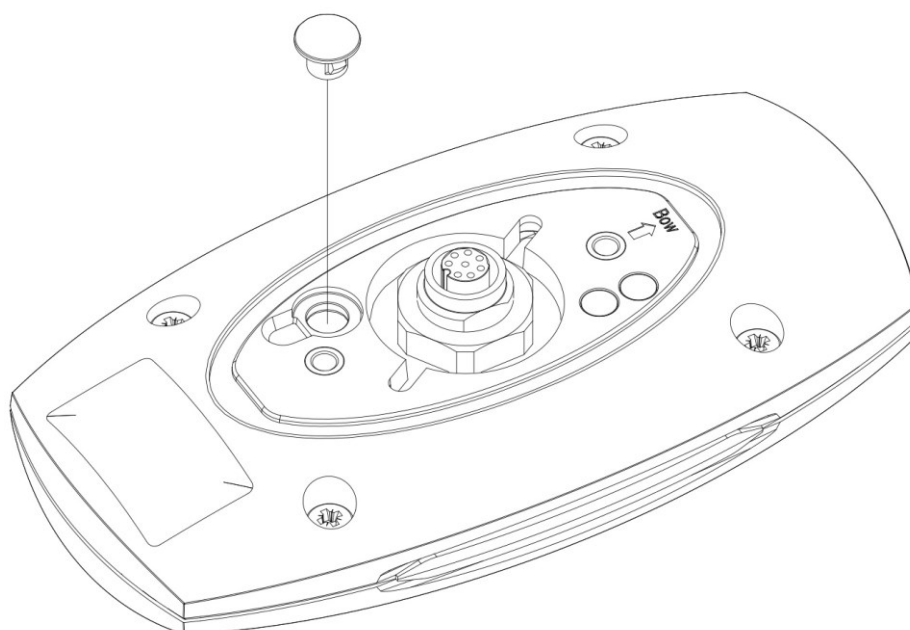

FIGURE 8: POLE MOUNT INSTALLATION STEP 2 (REMOVE CAP FOR DIP-SWITCH SETTINGS)
- Standard (figure 8-pattern) default      See *Standard (figure 8-pattern)* on page 33